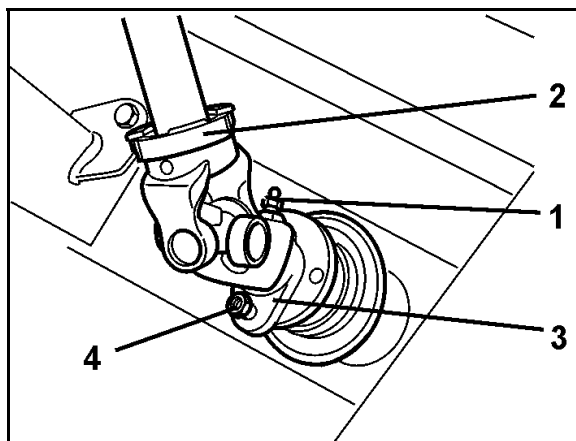

Fig. 81
1. Remove the grease nipple (Fig. 81/1) in the connection fork (Fig. 81/2) of the PTO shaft.
2. Remove the shear bolt (Fig. 81/4) between the fork flange (Fig. 81/3) of the PTO shaft and the flange of the gearbox input shaft.